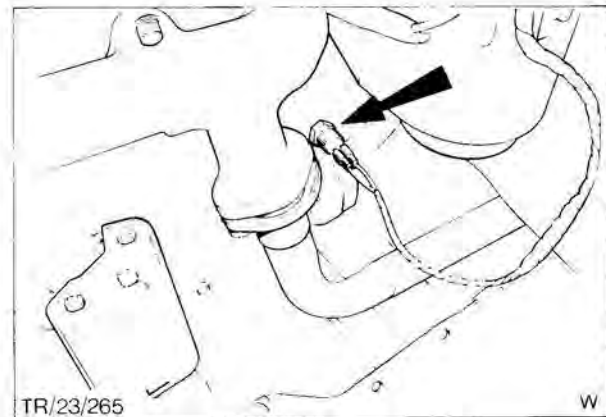

Fig. 40. Excess fuel temperature sensing switch
3. Disconnect loom and unscrew switch from cylinder block, Fig. 40.